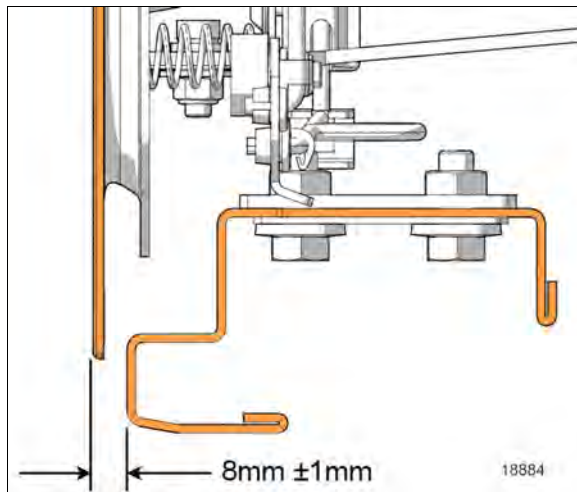

FIGURE 131: STRIKER SIDE TOP VIEW
26. Door exterior panel on latch side should be positioned at $8\text{mm} \pm 1\text{mm}$ from frame as shown in Figure 131. Make the adjustments by moving the receptacle support.